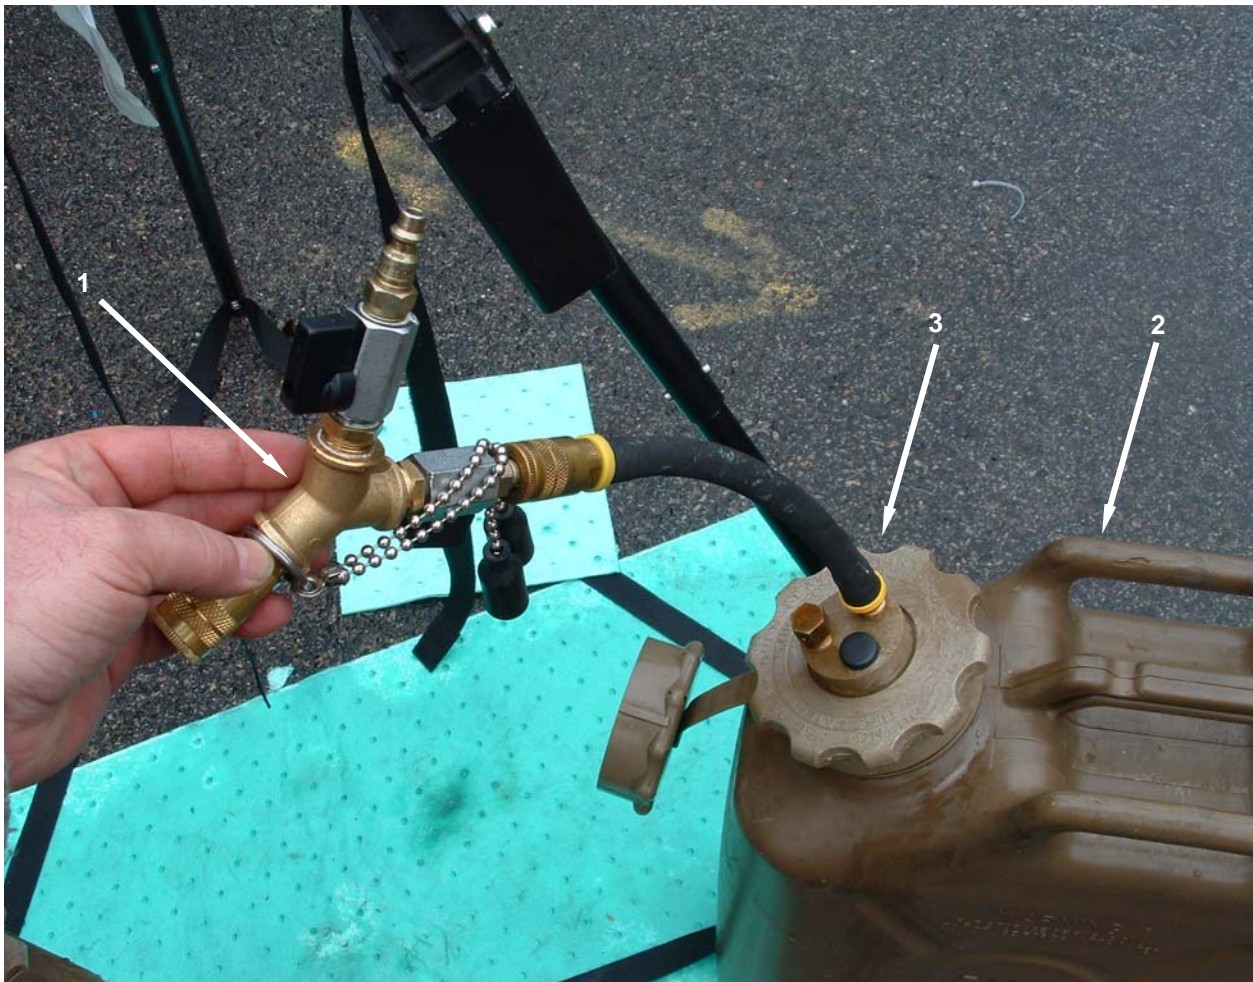

Figure 15. Prepare for Movement – Draining the Y-Adapter and the Gravity Feed Adapters.
8. Remove the Y adapter (**Figure 15, Item 1**) from one fuel can (**Figure 15, Item 2**).
9. Raise the Y adapter (**Figure 15, Item 1**) above the can (**Figure 15, Item 2**), open both valves, and allow the gravity feed adapter (**Figure 15, Item 3**) to drain into the fuel can for 30 seconds.
10. Close both valves on the Y adapter (**Figure 15, Item 1**).
11. Remove the Y adapter (**Figure 15, Item 1**) from the fuel can (**Figure 15, Item 2**), and connect to the remaining fuel can.
12. Raise the Y adapter (**Figure 15, Item 1**) above the can (**Figure 15, Item 2**), open both valves, and allow the gravity feed adapter (**Figure 15, Item 3**) to drain into the fuel can for 30 seconds.
13. Close both valves on the Y adapter (**Figure 15, Item 1**).